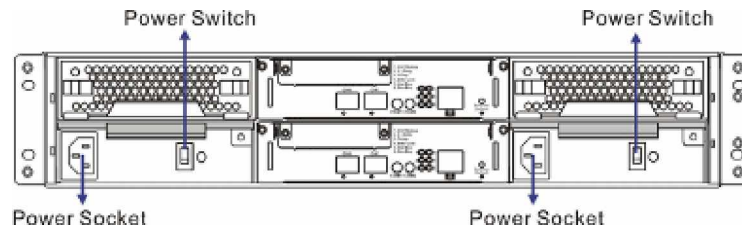

Figure 5-12: Power Sockets and Power Switches
Step 1. Turn off the PSU using the power switch found on the center of each PSU. (See **Figure 5-12**)
Step 2. Flip open the power cord clamp (if used) and remove the power cord connecting the failed module to the main power. The power cord socket is found on the left side of each PSU. (See **Figure 5-12**)